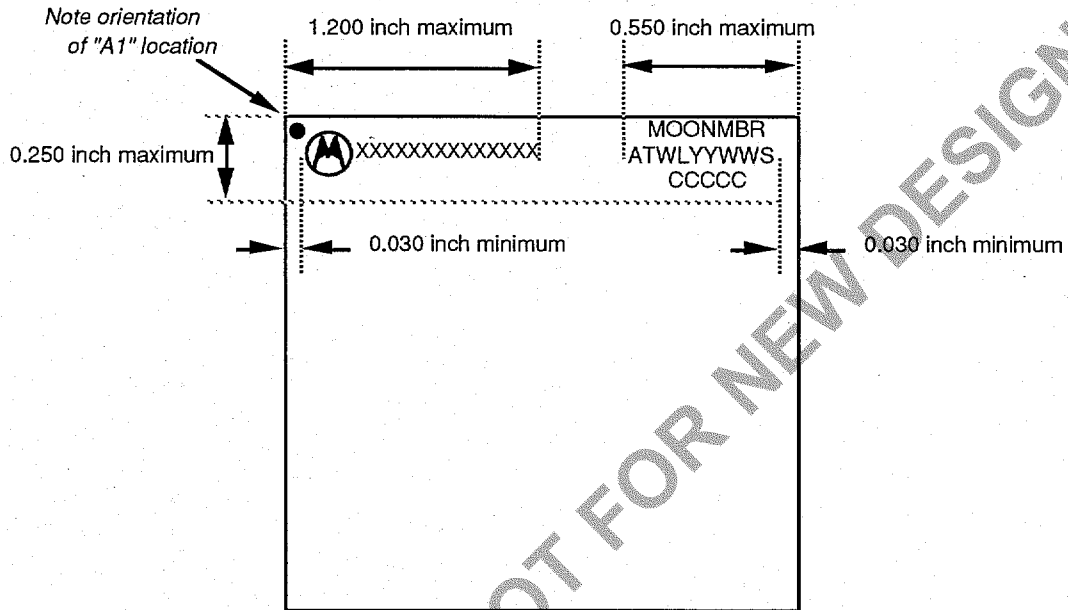

Figure 12. MC88110 Marking Specifications—Illustrated
The MC88110 product marking criteria is shown in Figure 12. This information is intended to be used for identification purposes only.
2. (M) = Motorola logo.
- Logo must be placed as indicated in Figure 12.